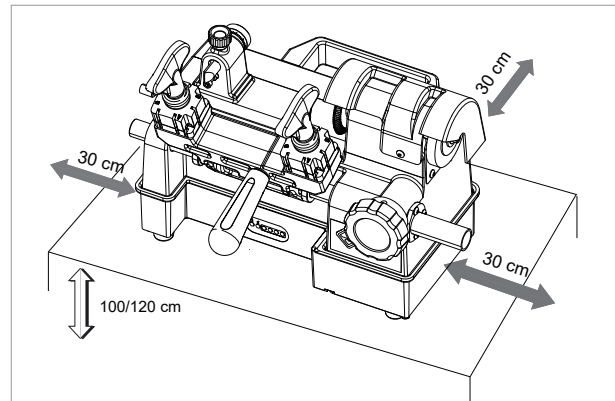

Fig. 11
- it is important to leave clearance of at least 30cm (12") behind the machine and on each side to ensure proper ventilation (Fig. 11).